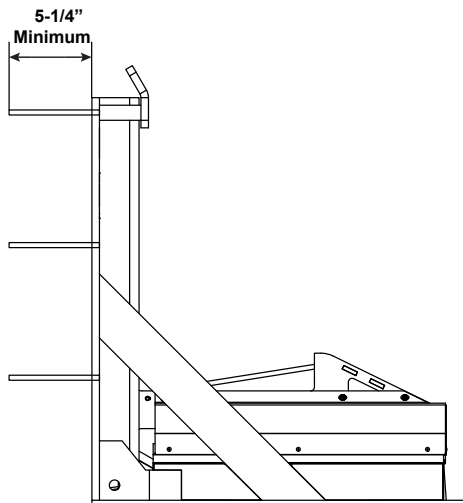

Figure 8
Using back plate as a guide, drill six (6) holes for wedge anchors (3/4" x 5-14" min, see Figure 8). Install anchors. Where possible, back plate should also be welded to curb angle with 1/4" fillet weld.